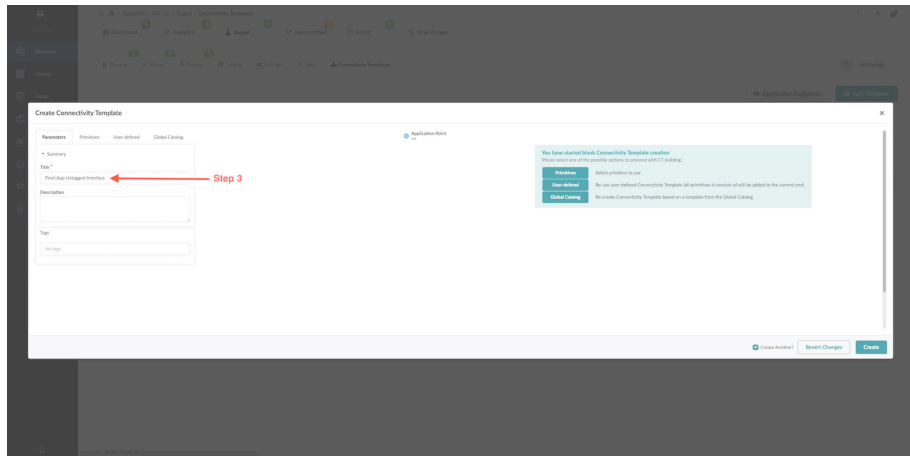

Figure 5.16 Creating a Connectivity Template via Apstra
Step 3: Assign a name to the connectivity template. See Figure 5.16.